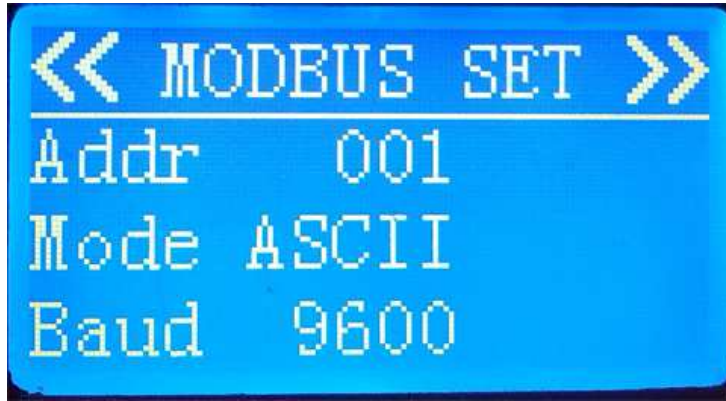

Fig 2-5 Modbus Setting
- 3) In the “MODBUS SET” interface, set Modbus communication mode to “ASCII” or “RTU”, set device address to “1”, set baud rate to “9600” or other, as shown on Fig 2-5: